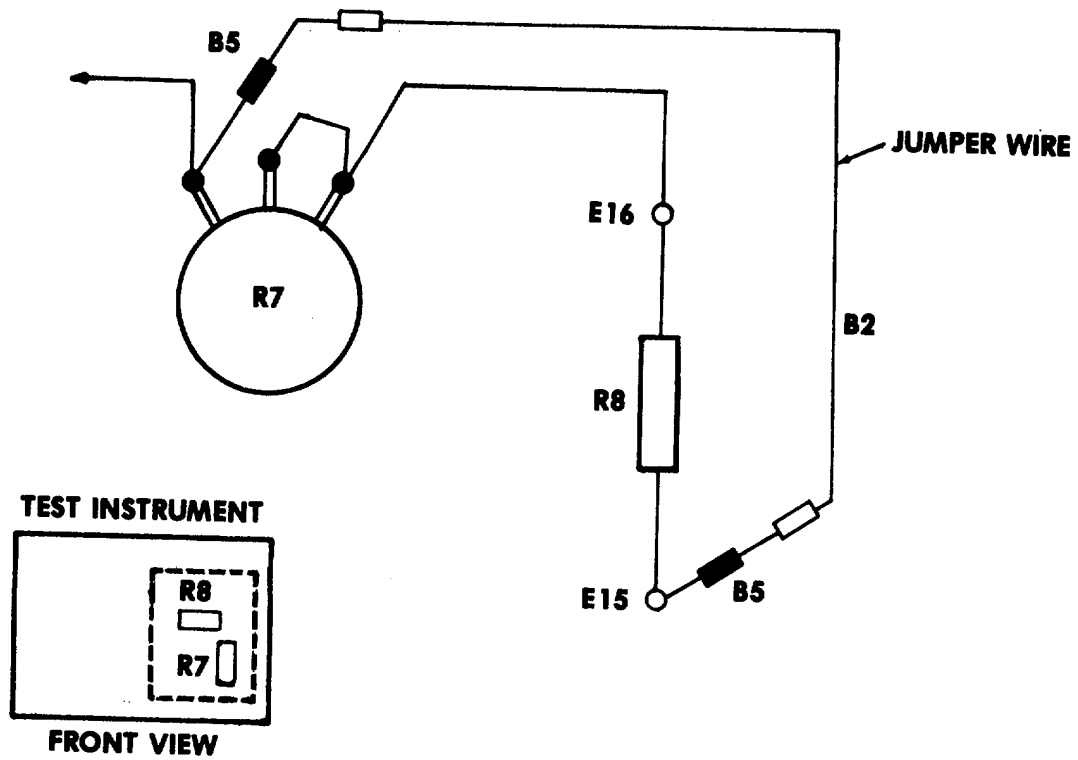

Figure 2. Meter Phase Circuit Jumper Setup
(1) Connect a test lead (B2) between potentiometer R7 and terminal E15 as shown in figure 2, using two adapters (B5).